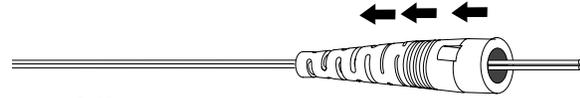

Figure 3-10
3.4-1 Slide the 900  $\mu\text{m}$  boot (small end first) down both fibers until it is out of the way (Figure 3-10).